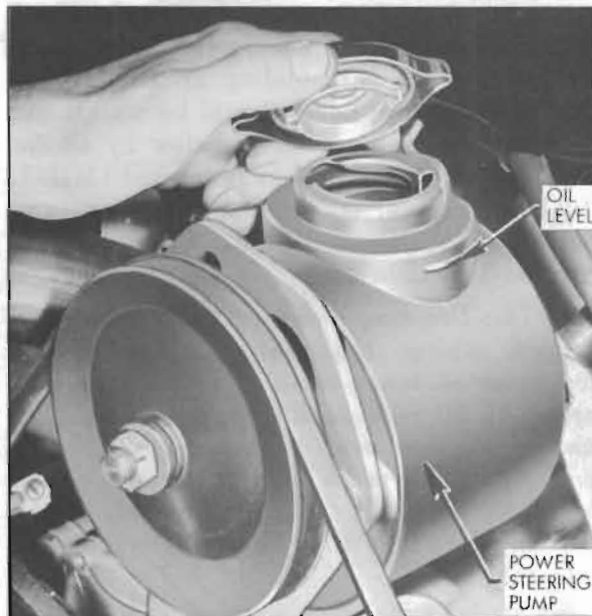

Figure 1-7—Power Steering Pump Reservoir
15. *Power Steering Gear.* Thoroughly clean dirt from reservoir cap on top of oil pump, then remove cap. With system warmed up, add oil specified for automatic transmission. See figure 1-7.